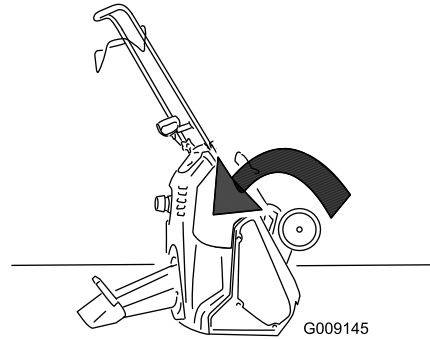

Figure 32
11. Tip the snowthrower forward onto its front to make installing the exhaust baffle easier (Figure 32).